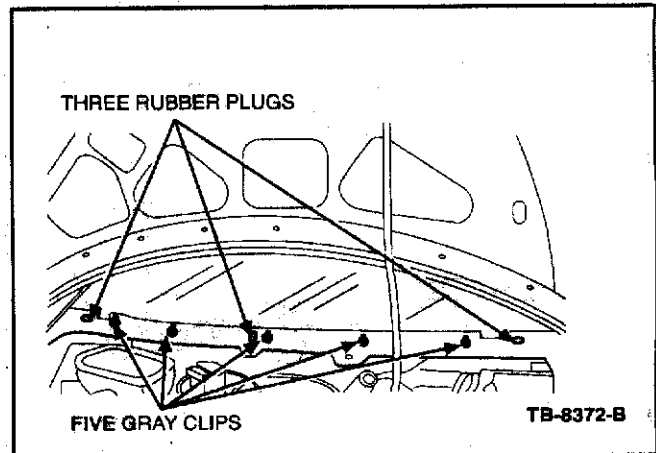

Figure 10 - Article 06-14-10
13. Check that the three (3) rubber plugs and five (5) gray plastic clips are fully seated. Add Clear Silicone Rubber around the three (3) rubber plugs and the five (5) gray plastic clips. (Figure 10)